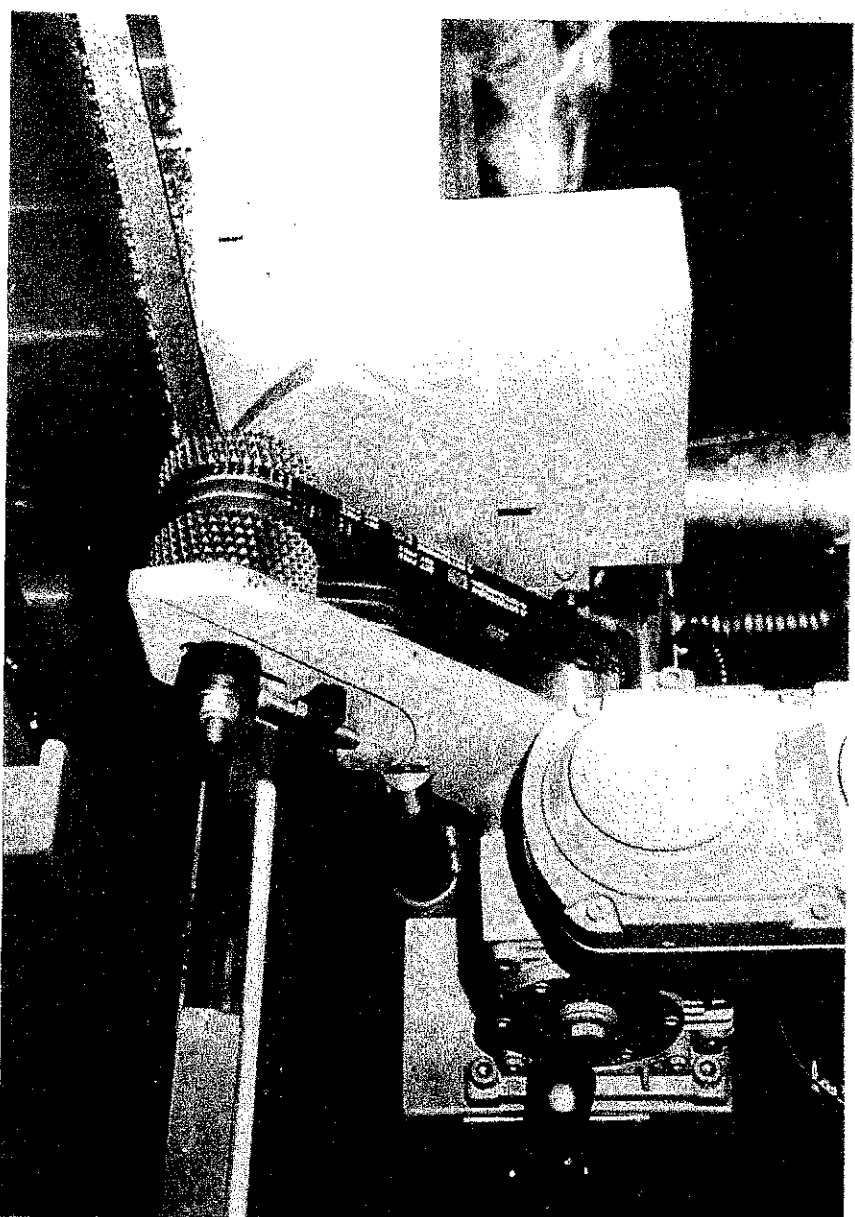

FIG. 25
- h) Replace with 3 new belts FIG.25.